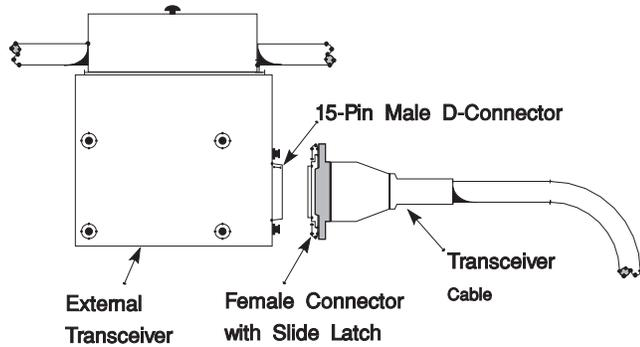

Figure 4-3. Connecting the transceiver cable to an external Ethernet
1. Attach the transceiver cable's female connector to the 15-pin male D-connector on the external Ethernet transceiver (see Figure 4-3 on page 4-4). Secure the cable's connection with the slide latch on the female connector bracket.